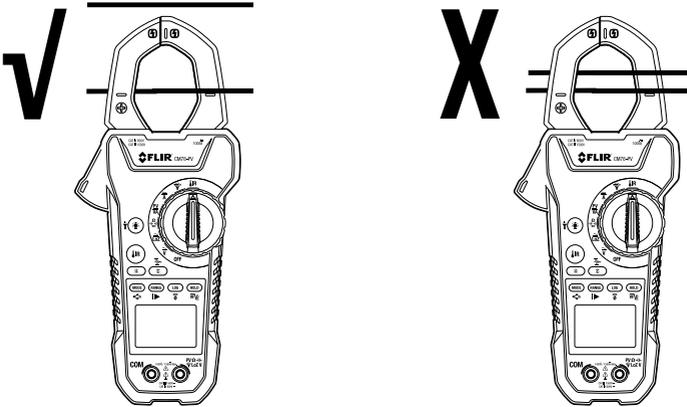

Figure 5.1 Clamp only one conductor. Correct (left) and incorrect (right) clamping.
When measuring current using the clamp jaws, only one conductor should be enclosed by the jaws, refer to Figure 5.1.
3. Press the trigger to open the clamp jaws. Fully enclose one conductor, refer to Figure 5.1. For optimum results, centre the conductor in the jaws.